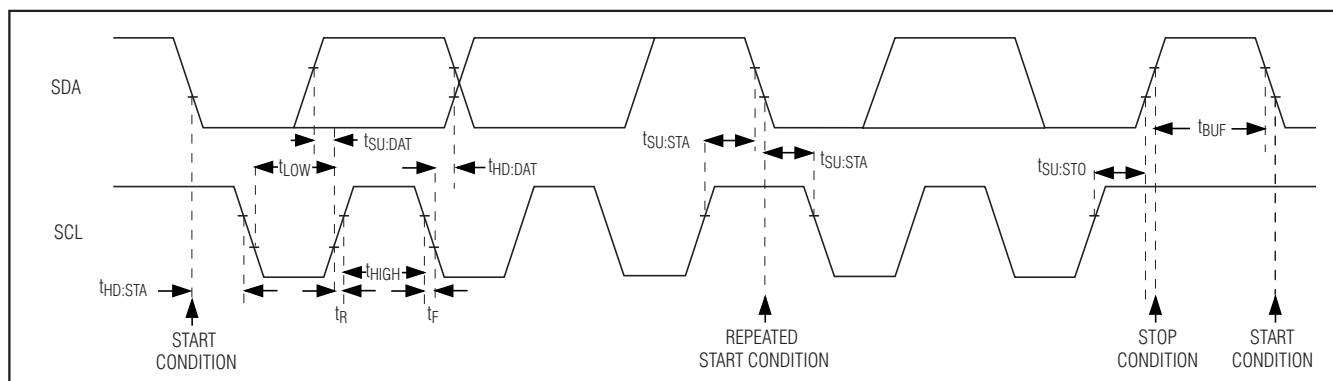

Figure 6. 2-Wire Interface Timing Diagram
The MAX9875 features an I2C/SMBus™-compatible, 2-wire serial interface consisting of a serial-data line (SDA) and a serial-clock line (SCL). SDA and SCL facilitate communication between the MAX9875 and the master at clock rates up to 400kHz. Figure 6 shows the 2-wire interface timing diagram. The master generates SCL and initiates data transfer on the bus. The master device writes data to the MAX9875 by transmitting the proper slave address followed by the register address and then the data word. Each transmit sequence is framed by a START (S) or REPEATED START (Sr) condition and a STOP (P) condition. Each word transmitted to the MAX9875 is 8 bits long and is followed by an acknowledge clock pulse. A master reading data from the MAX9875 transmits the proper slave address followed by a series of nine SCL pulses. The MAX9875 transmits data on SDA in sync with the master-generated SCL pulses. The master acknowledges receipt of each byte of data. Each read sequence is framed by a START or REPEATED START condition, a not acknowledge, and a STOP condition. SDA operates as both an input and an open-drain output. A pullup resistor, typically greater than 500Ω, is required on SDA. SCL operates only as an input. A pullup resistor, typically greater